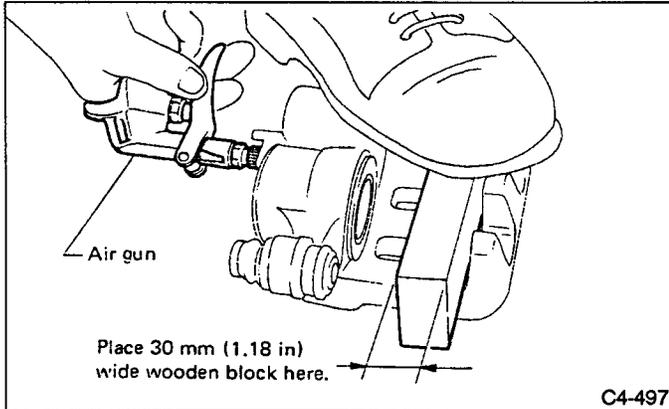

Fig. 53
a. Place a wooden block as shown in Fig.53 to prevent damage to piston.